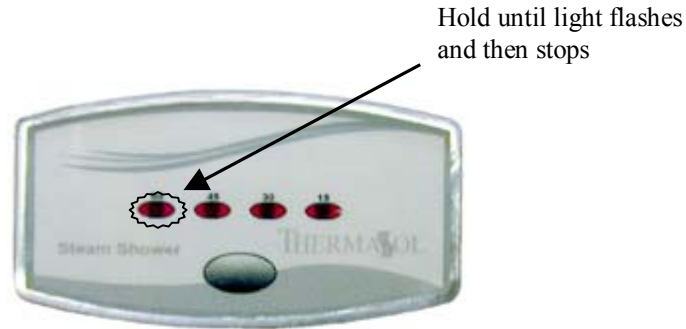

Figure 5
4. **Setting memory.** Find the desired time you want to set. Press and hold the “STEAM” button. LED will flash, continue to hold until light stops flashing and remains solid. Turn timer off by pressing “STEAM” button. Wait 15 seconds and restart your unit. Your desired time will illuminate, **see figure 5.**